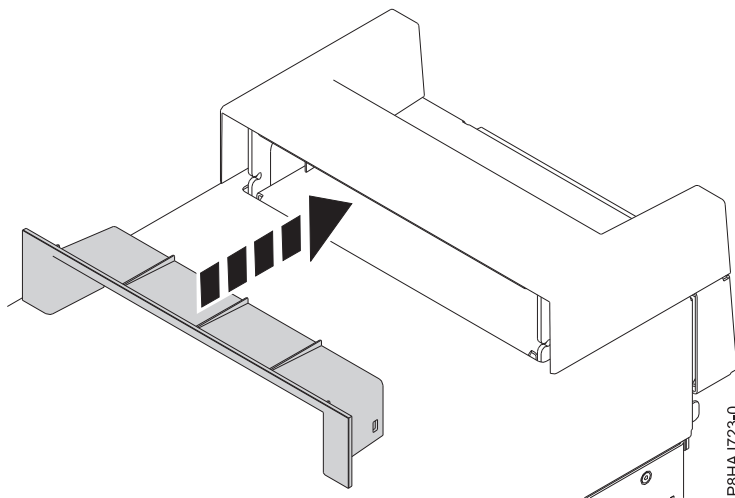

Figure 38. Inserting the piece within the handle cover on an 8286-41A stand-alone system
2. Insert the piece within the handle cover by pushing it firmly into the handle cover as shown in Figure 38.